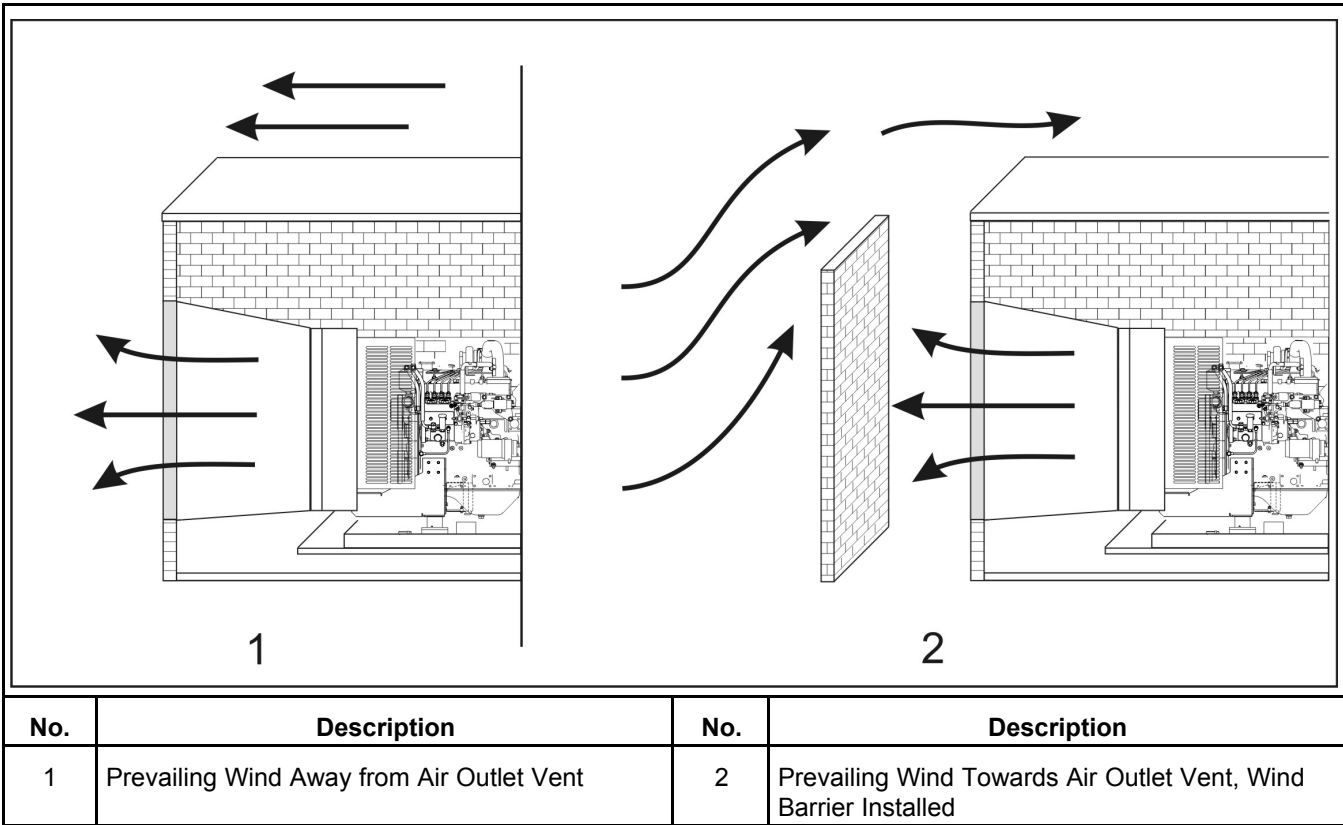

FIGURE 17. WIND BARRIER
- 3. Wind will restrict free airflow if it blows directly into the air outlet vent. Locate the outlet vent so the effects of wind are eliminated, or if the outlet vent cannot be located as mentioned, install a wind barrier. See Figure 17.